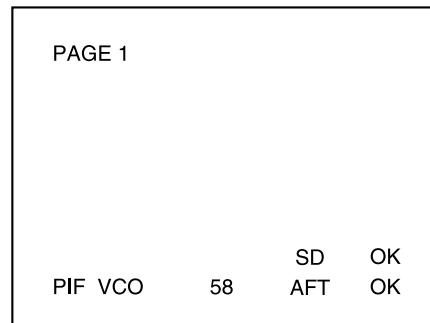

Fig.1-5
- Use the volume keys on the jig remote controller to adjust AFT until “OK” status is indicated on the screen. (Fig. 1-5)